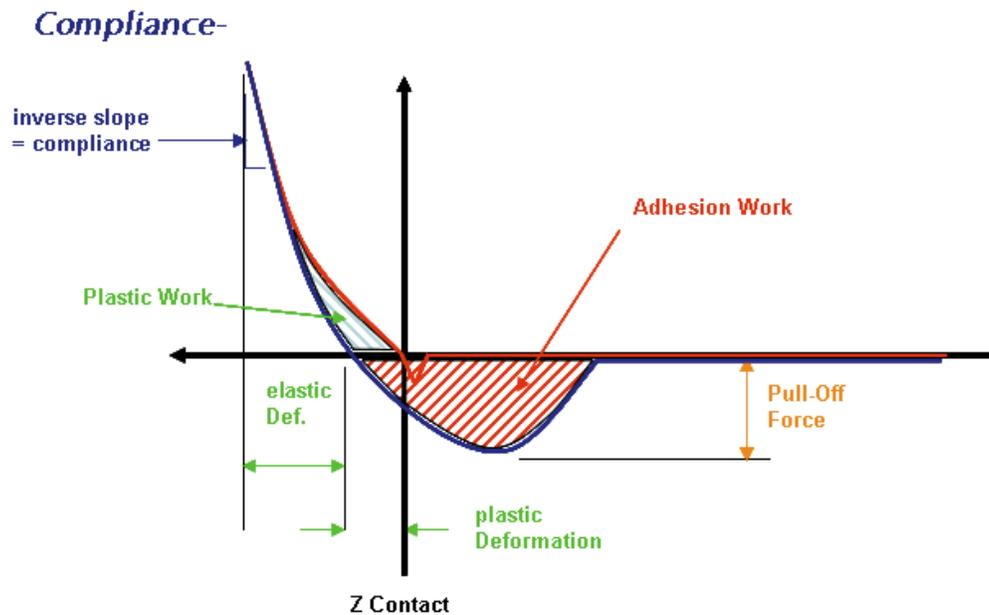

Figure 18.3.: Compliance force spectroscopy classification. Pushing can measure compliance forces.
- A modulus or compliance measurement where the tip pushes into the sample surface. (Figure 18.3 on page 230).